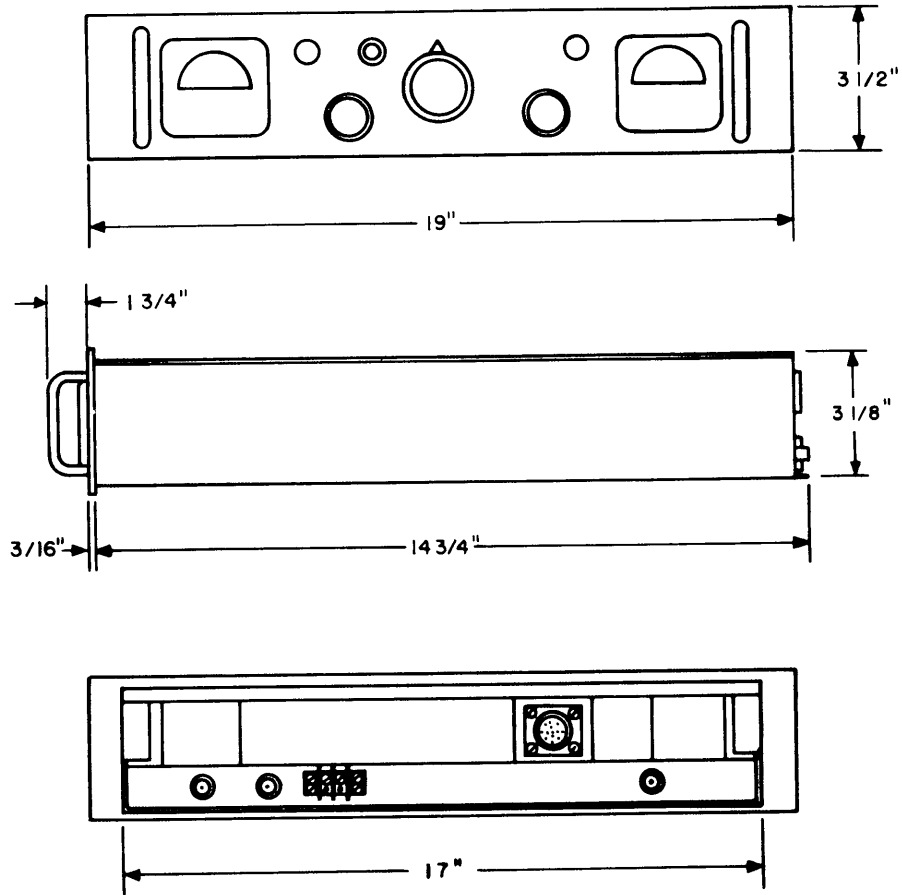

Figure 2-1. Outline Dimensional Drawing, AFC-2A,3
a. The AFC unit is equipped with a standard 19 inch rack panel. Approximately 15 inches of clearance from the back of the panel to the rear of the rack is required. Refer to figure 2-1 for outline dimensions.
- (1) Set the AFC unit in position on the tracks.